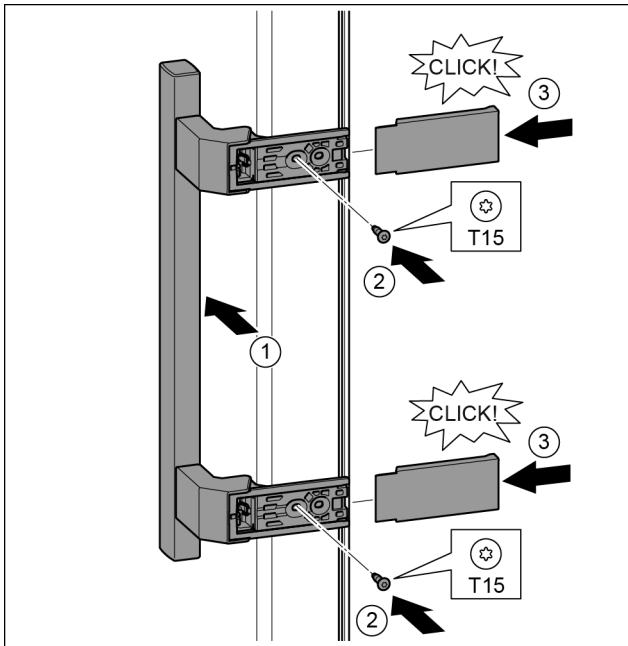

Fig. 22
- ▶ Position the handle on the other side. Fig. 22 (1)
- ▶ Tighten the screws with the T15 screwdriver. Fig. 22 (2)
- ▶ Position the covers on the side and push in. Fig. 22 (3)